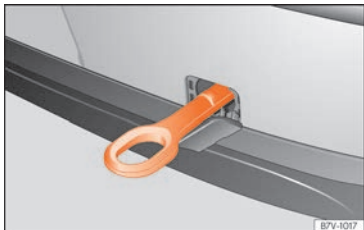

Fig. 57 On the right side of the rear bumper: towline anchorage in position.
The housing of the screw towing eye is on the right side of the rear bumper behind a lid »» **Fig. 57**.
- Press the upper side of the lid »» **Fig. 57** to unclip it.